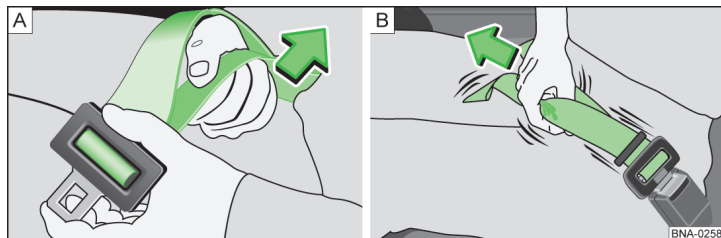

Fig. 6 Two-point safety belt
- Hold the latch plate at a right angle to the strap and pull the strap to the desired length » fig. 6 - [A].
- Pull on the free end of the strap » fig. 6 - [B].